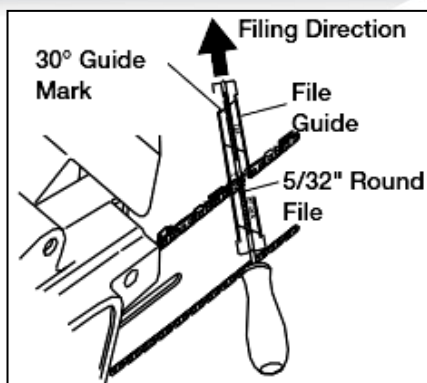

Figure 11
3. Press 5/32" round file (attached to file guide) into groove between top plate and depth gauge on chain. File guide should rest on both top plate and depth gauge (see **Figure 11**). (Note: File at midpoint of guide bar.)